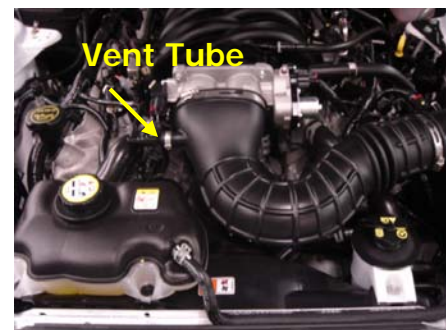
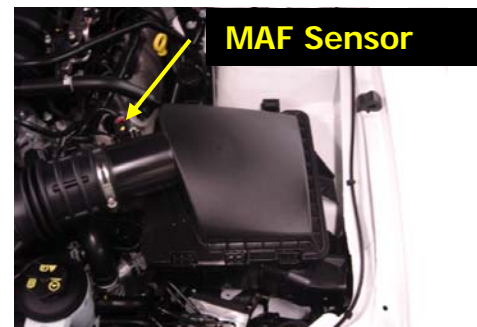

Fig.2
Fig.3
3. Remove the Air Filter Assy – Disconnect the crankcase vent tube (Fig. 2) from the intake air duct. Loosen the 2 clamps and remove the intake air duct. Disconnect the mass air flow (MAF) sensor electrical connector (Fig. 3). Remove the air cleaner assembly bolt and gently pull the air filter assy from the vehicle. CAUTION: COVER THE THROTTLE BODY WITH A RAG TO KEEP FOREIGN OBJECTS OUT!